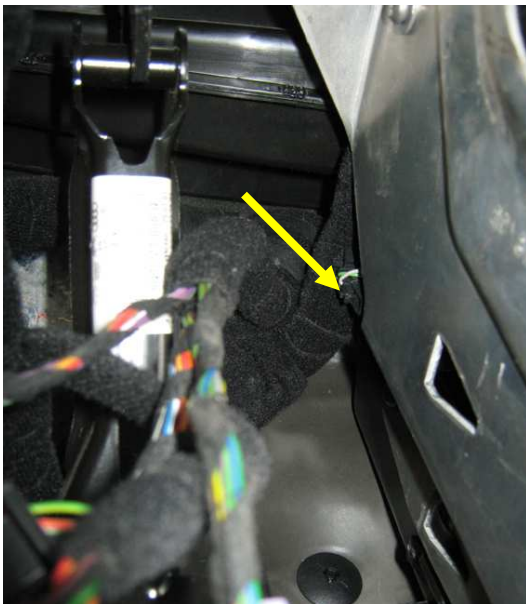

Figure 3
- The sensor's connector is now visible above the footwell (Fig. 3)